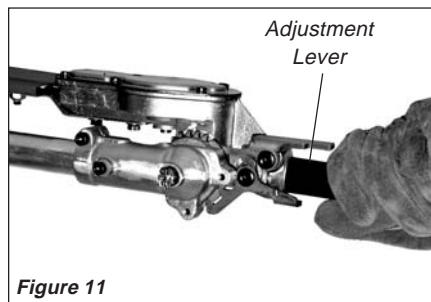

Figure 11
1. With your right hand, grasp the handle, located immediately behind the hand guard. With your left hand, grip the adjustment lever on the cutter assembly. See Figure 11.